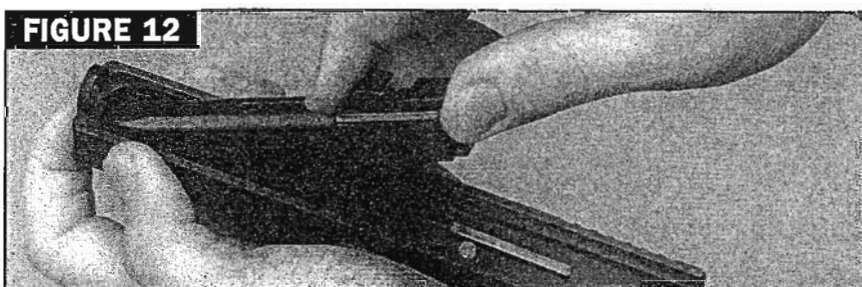

FIGURE 12
- Grasp the barrel lug. While raising the chamber end, move the barrel slightly forward (Fig. 12). Then, lift the barrel from the slide.